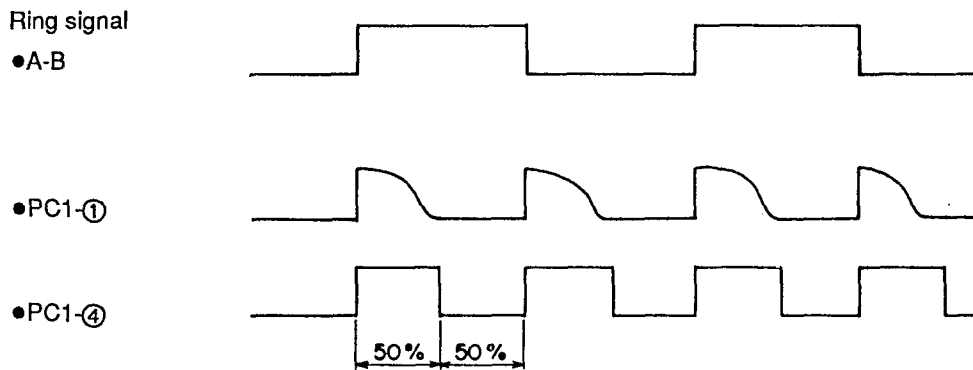

Fig. 30
Therefore, if the low/high ratio is greater than 45% at IC5-④② (CPU), it is judged as a ring signal. See Fig.30.